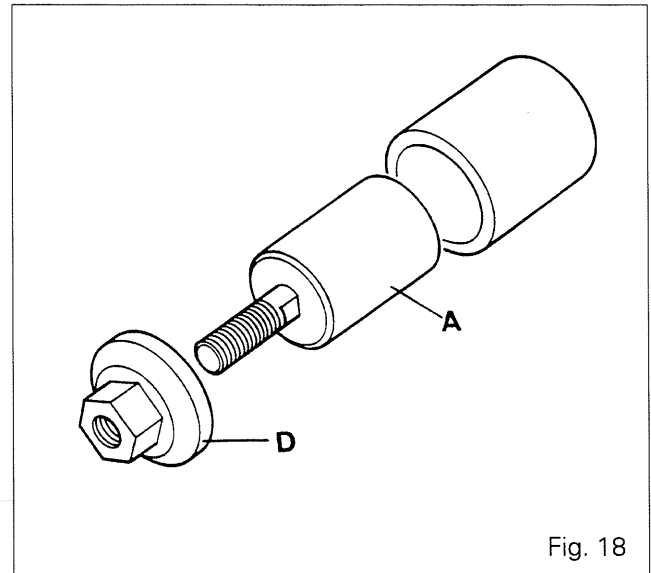

Fig. 18
**3378039M1 - Fitting tool for ring gear carrier and seal (Fig. 18)**